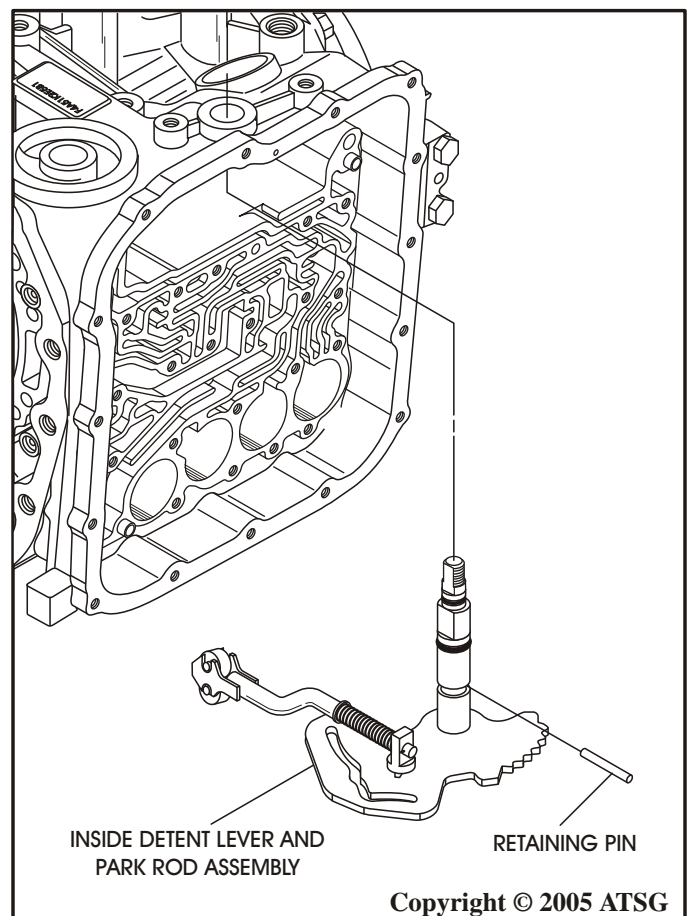

Figure 36
18. With the manual shaft retaining pin removed, rotate back and forth and remove the inside detent lever and parking rod through the inside of the case, as shown in Figure 36.